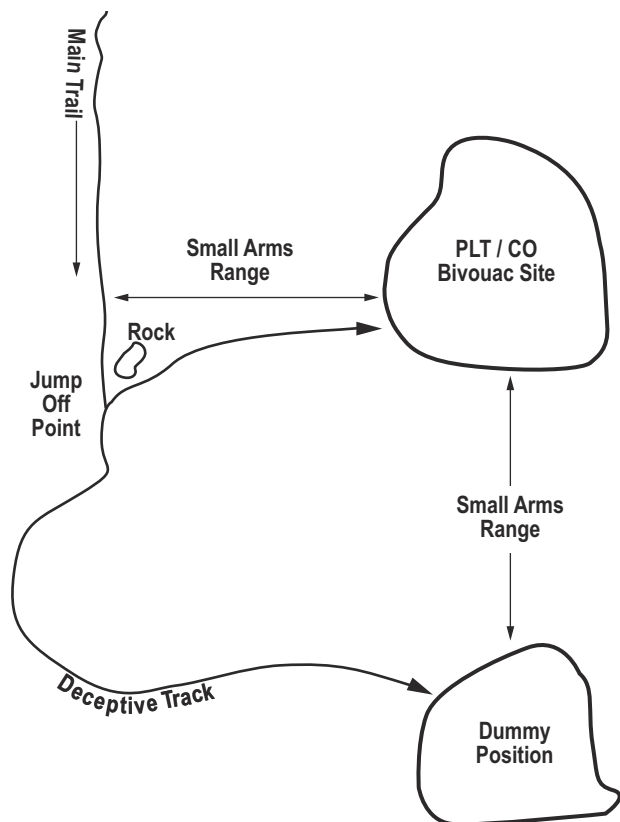

Figure 16-1. Platoon/Company Track Plan.
- *Jump-off point.* The intersection of the main trail and the trail leading to the bivouac is called the jump-off point. The jump-off point must be well concealed, such as by large trees, a river, boulders, or other natural obstacles. Generally, when making the jump-off point, the main trail is left at a right angle or, for best deception, heading back toward the original direction of march. The jump-off point should be covered by fire from the defensive position, as in figure 16-1 on page 16-2.